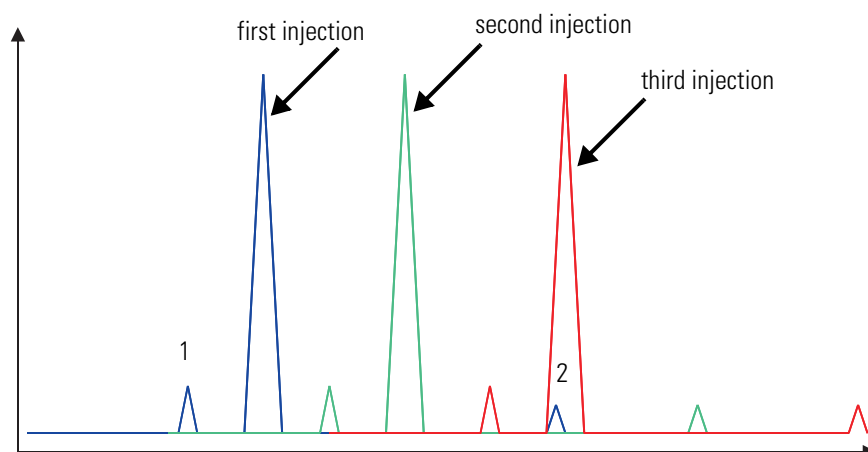

Figure 5-9. Upon retention times - combining chromatograms
If water is present in the substance mix in the loop, it will arrive after about 300 s. The situation is complicated furthermore by the repeated loop injection that is normally performed to enhance the accuracy of the measurement. This repeated loop injection causes the peaks to “stack” in the chromatogram thus sometimes hiding important impurities. This is outlined in Figure 5-9 which shows combined chromatograms.
1. Air peak precedes CO₂. See pos. 1 in Figure 5-9.
2. Water peak may follow CO₂ but must not interfere with CO₂. See pos. 2 in Figure 5-9.